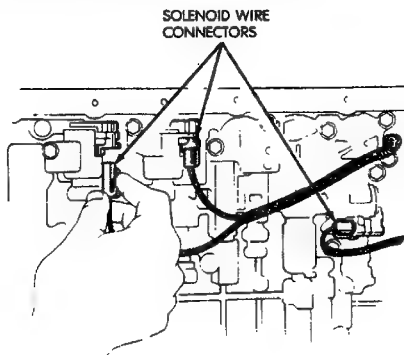

Fig. 7 Solenoid Wire Connectors
- (4) Disconnect solenoid wire connector (Fig. 7).
- (5) If all solenoids are being removed, mark or tag wires for assembly reference before disconnecting them.
- (6) Remove bolt attaching solenoids to valve body and
- (1) Remove oil pan and oil screen. Refer to Solenoid Removal procedure.
- (2) Disconnect solenoid wire connectors (Fig. 7).
- (3) Disconnect solenoid wire connectors (Fig. 7). Mark wires for assembly reference.